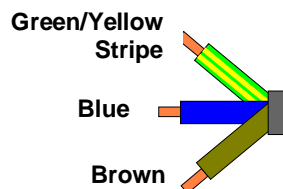

FIGURE 54: Pigtail Cabling Conductors
- Two pigtail-type cable assemblies (see Figure 54 and refer to Tables 22 and 23) that are rated for 95-240VAC or 200-240VAC input supply service connected to preferable dedicated lines.